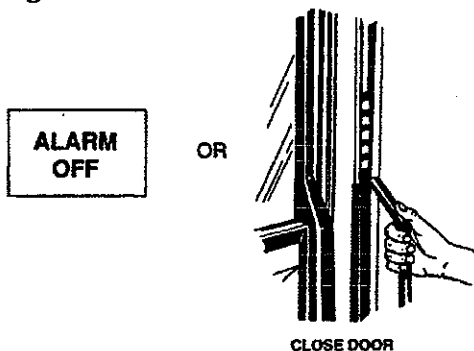

Figure 21
- a. To deactivate Door Open Audio Alarm, press ALARM OFF or close the door(s). See Figure 21.